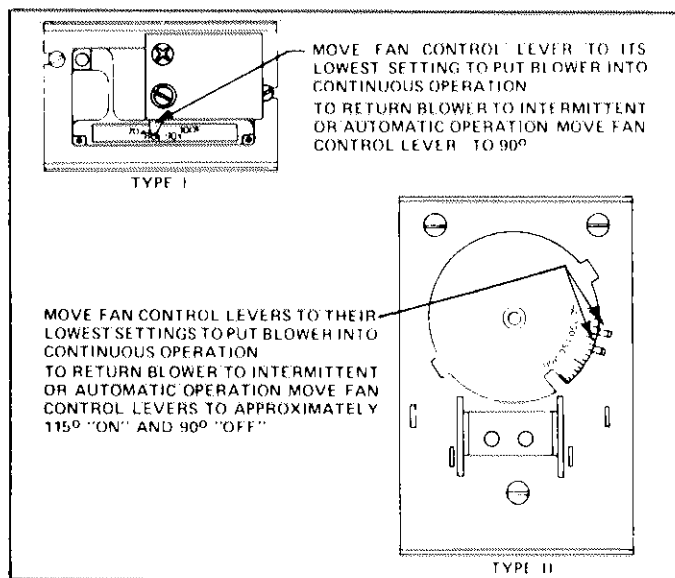

FIGURE 2
- 2 - *Fan Control* - Refer to Figure 2 for recommended settings.